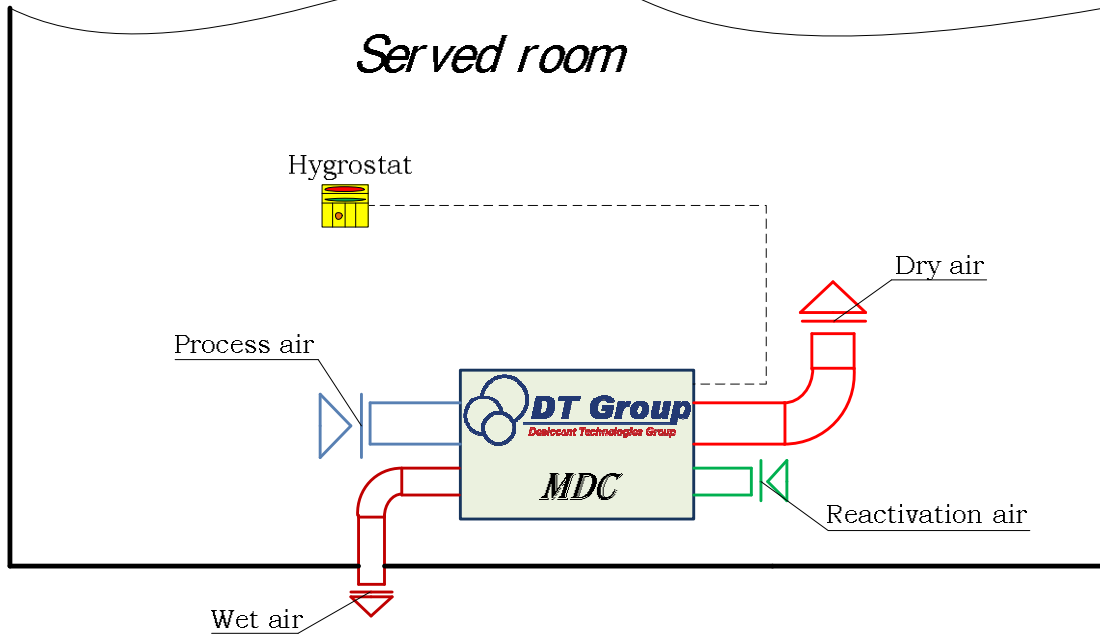

Figure 4.7: Work of a dehumidifier on the "closed" circuit in the mode of "dehumidifying"
- ✓ Work of a dehumidifier on the "closed" scheme in the mode of "dehumidifying", Figure 4.7.
Figure 4.7 shows the internal view of dehumidifier during the work in the recirculation mode with an intake of reactivation air from the room (the mode of "dehumidifying" of rooms). This is useful, for example, in cases of application of the Device for drainage of facilities after flooding, or before carrying out painting and decorating works.